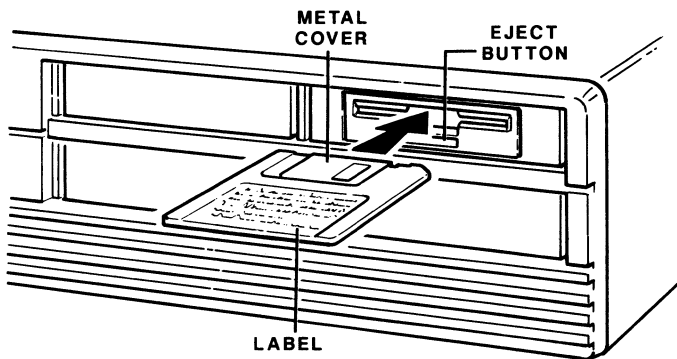

Figure 1-7. Inserting a Disk
3. Refer to Figure 1-7 and insert this disk, label side up and toward you, into floppy disk drive A. Slide the disk all the way into the drive until you hear a click and the eject button pops out.